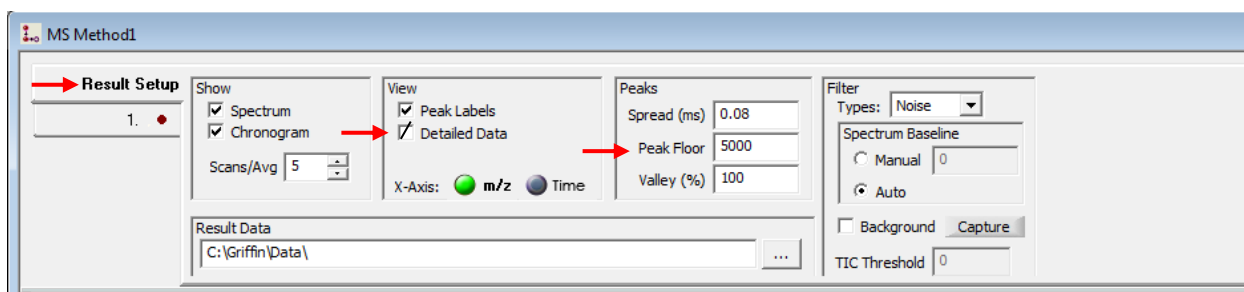

Figure 1.11 – Results Setup tab
3. The window that opens should be similar to the one below (Figure 1.11).
4. Under the “Results Setup” tab, change the peak floor to **10** and make sure that detailed data is **check marked** (Figure 1.11).